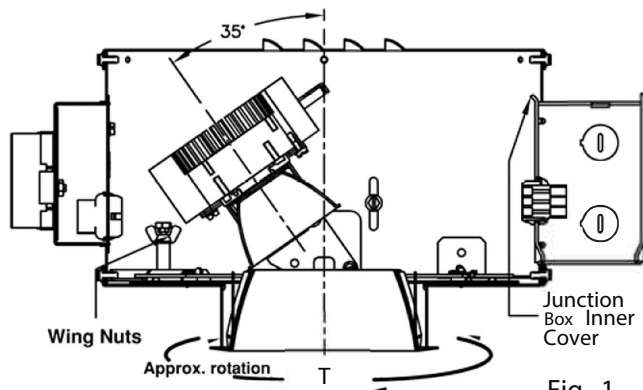

Fig. 1
- 3 If alignment of square aperture is required, with trim removed, loosen (2) wing nuts. Align aperture. Tighten wing nuts. (See Fig. 1)
#### Access to Junction Box: (See Fig. 1)